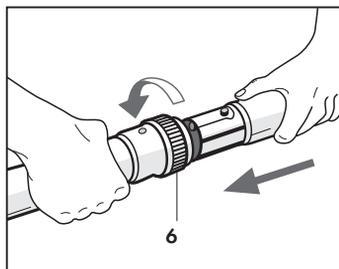

Fig. 11
To connect the tubes (U) with the accessories, just insert the male end of one into the female portion of the other and turn the locking ring nut (6) in the direction shown **(Fig 11)**.